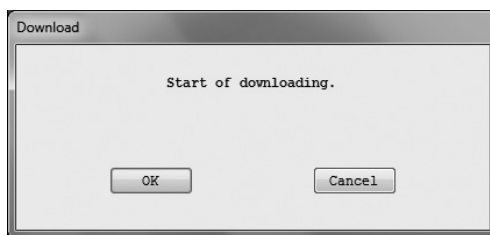

Fig.180
- ⑥ A message box (Fig. 180) will be displayed. Click the "OK" button to download the data to the transmitter. To not download the data, click the "Cancel" button.